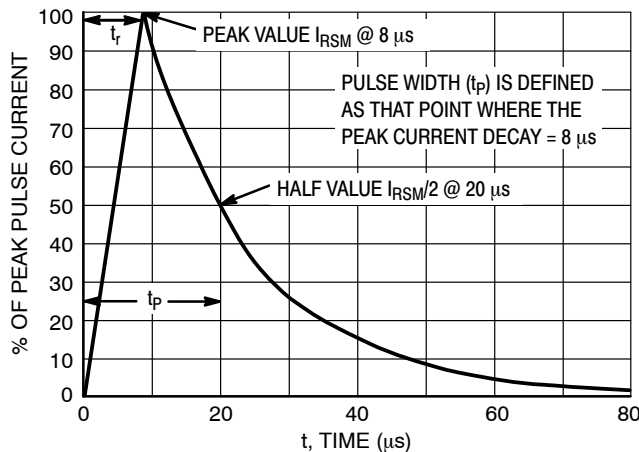

Figure 7. 8 X 20 μs Pulse Waveform
5. Surge current waveform per Figure 7.